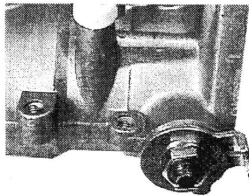

Fig.2
2. Fit the forked throttle lever in the orientation as shown in Fig.2. Refit the original lock tab and shaft nut.